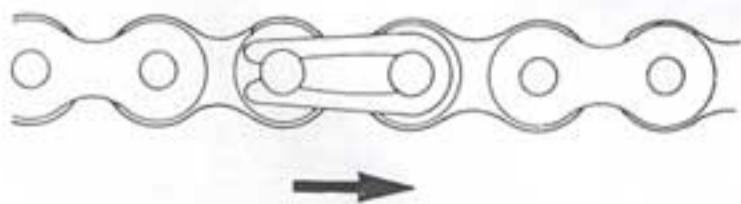

Fig. 4
- Fit the link clip (flat nose pliers) (fig. 4).